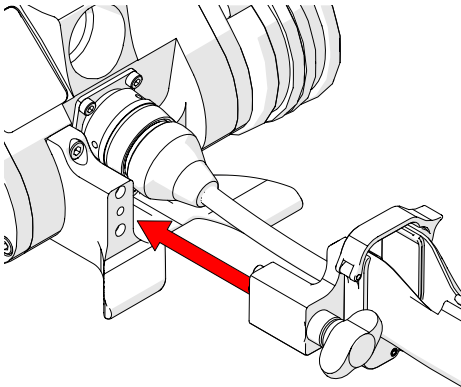

Fig. 161 - Align with umbilical
1. Align the HT cable management clamp with the appropriate mounting position on the user umbilical breakout (Fig. 161).